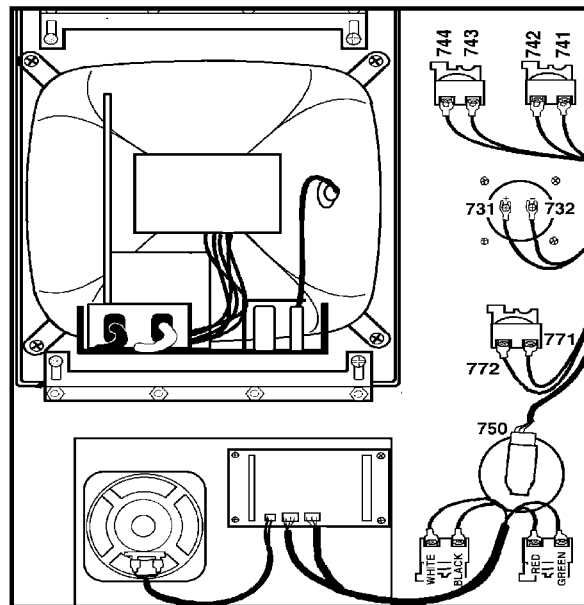

Fig. 5-1 Interior of control panel (rear).
7. Replace by sliding the new assembly onto the eight bolts (four each on top and bottom). Starting with the bottom right, place the washers and hex nuts on the bolts to hold in place. Refer to Fig. 5-1 for the order of replacement. Once all washers have been attached and nuts have been hand-tightened, tighten down completely with the socket.
3. Disconnect all leads to the switch's connectors. Ensure all leads are properly marked for reconnecting later. Refer to Fig. 5-1 for proper locations.